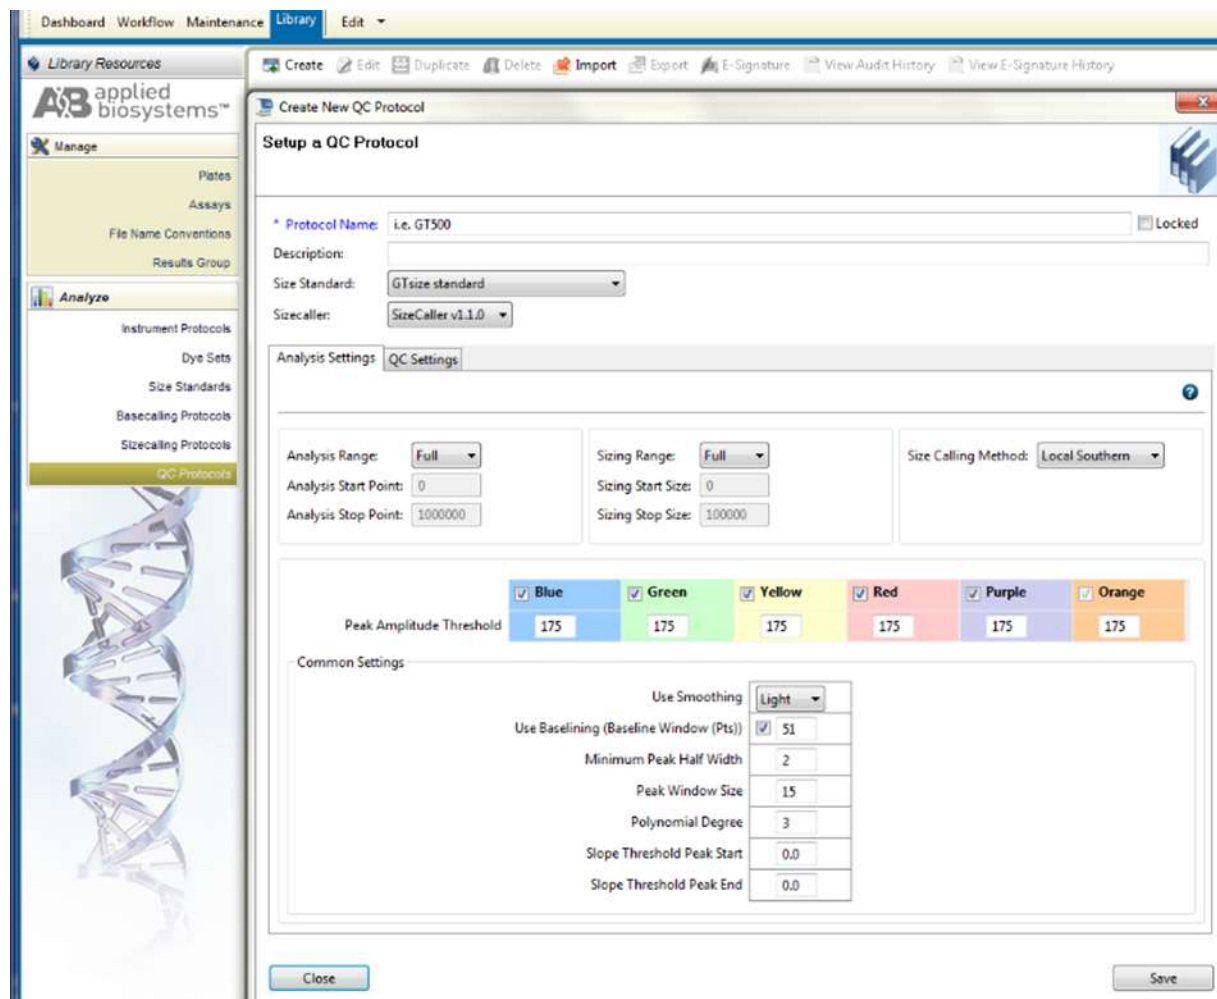

Figure 7. Screenshot for the “Create New QC Protocol” window on Applied Biosystems 3500 Data Collection software
- c) Select “Create” (Figure 7)